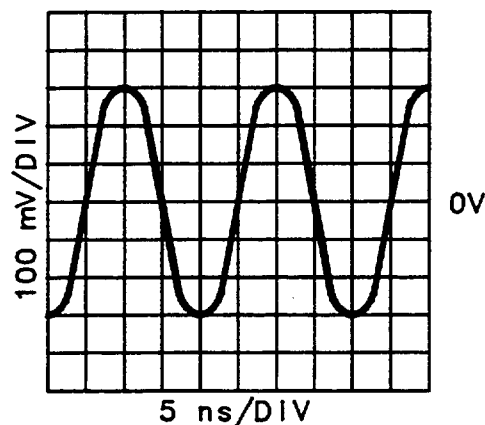

Figure 8-2. 50 MHz POWER REF Waveform
21. Verify the 50 MHz signal as shown in Figure 8-2.